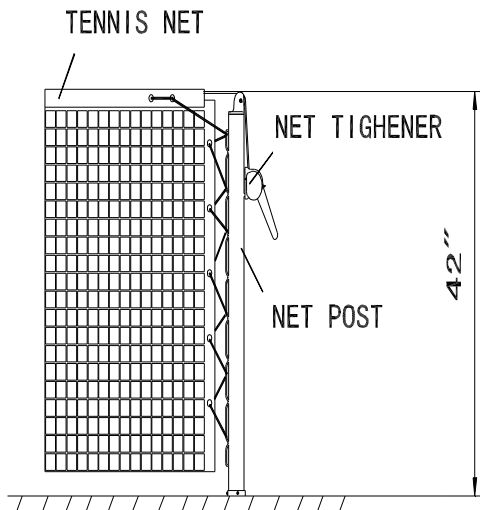

FIG. 7
7. Continue wrapping the cord around the post, through the lacing bars and through the grommets on the tennis net side band, applying equal pressure as you wrap. Tie off the cord at the bottom of the post. Repeat for other post. FIG. 7 shows a properly laced net. Install center strap and adjust it to maintain a net height of 36" at center.